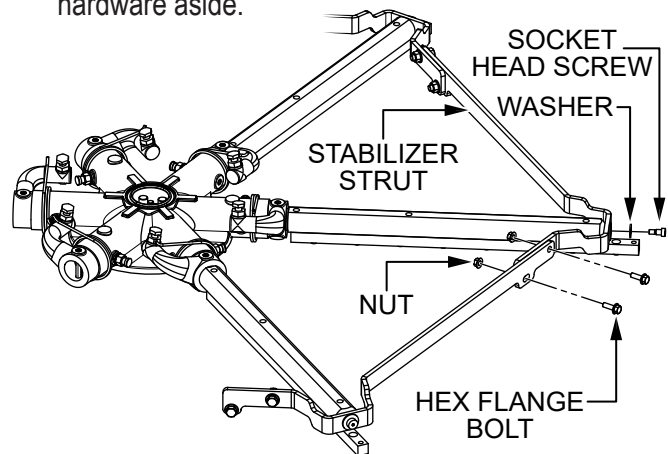

Figure 47. Stabilizer Ring Removal
1. Remove the hardware securing the **stabilizer struts** to the trowel arms (Figure 47). Set the struts and hardware aside.